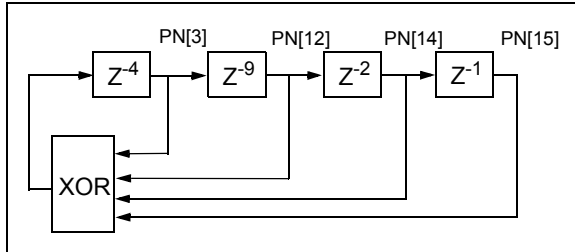

FIGURE 4-21: Block Diagram of 16-bit LFSR for Pseudo-Random Number (PN) Sequence for Output Test Pattern.
4.9.12.1 Pseudo-Random Number (PN) Sequence Output
When TEST_PATTERNS<2:0> = 111, the device outputs a pseudo-random number (PN) sequence which is defined by the polynomial of degree 16, as shown in Equation 4-9. Figure 4-21 shows the block diagram of a 16-bit Linear Feedback Shift Register (LFSR) for the PN sequence.